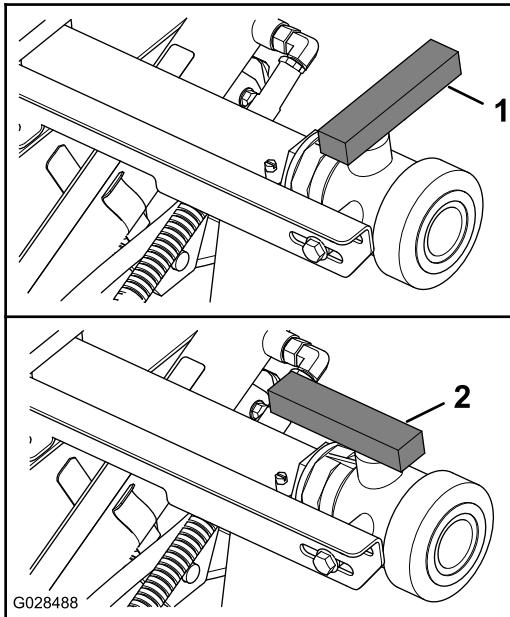

Figure 73
3. Open the valve to drain all unused material from the tank(Figure 73).
- 4. Close the drain valve (Figure 73).